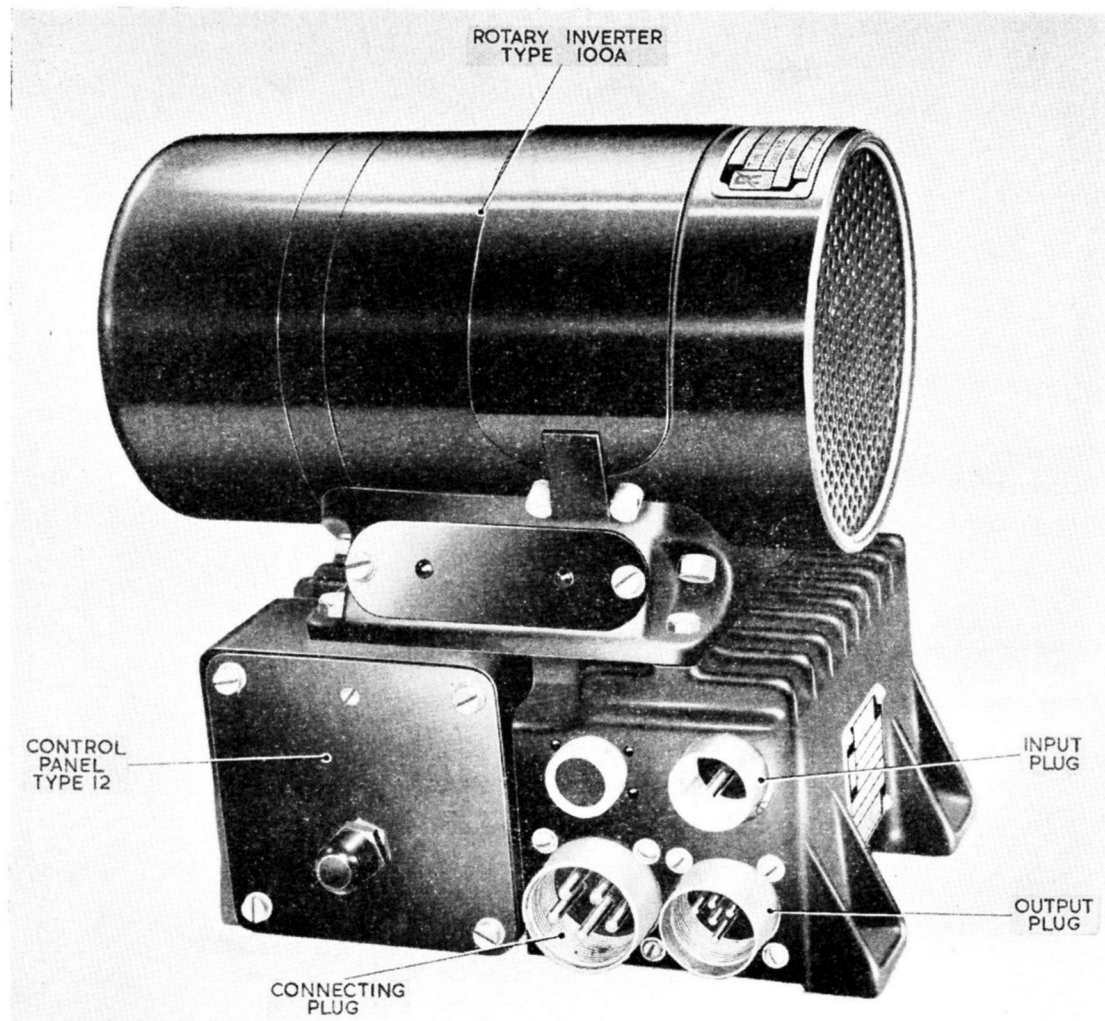
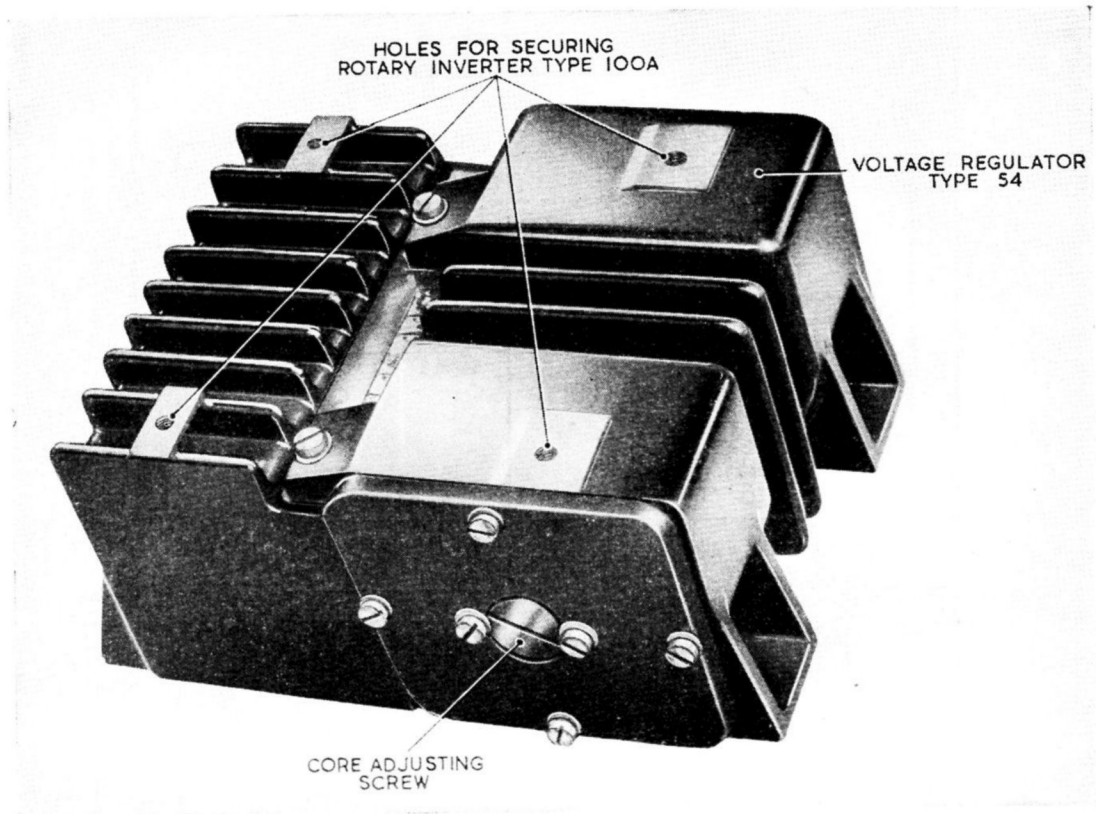
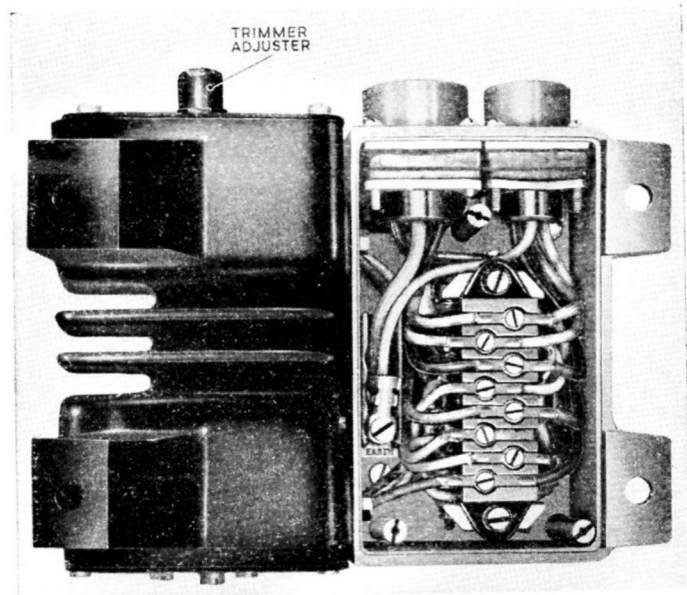

Fig. 1. Control panel, Type 12, with rotary inverter, Type 100A
Fig. 2. Control panel, Type 12
Fig. 3. View of underside of control panel
1. The control panel, Type 12, is used to regulate the output of the rotary inverter, Type 100A, which is described in Sect. 16 of this publication. The inverter may be mounted directly on the control panel, four fixing holes being provided on the latter for this purpose, as indicated in fig. 2; there are four possible mounting positions, one of which is shown in fig. 1. Alternatively, the inverter may be mounted remote from the control panel, to suit an individual installation; connection is made in each case by the connecting plug shown in fig. 1 and a corresponding plug on the inverter. A circuit
2. The control panel (fig. 2) incorporates two main castings secured together; one houses a voltage regulator, and the other (shown with the base cover removed in fig. 3) contains a rectifier, suppressor, and terminal block. Access to the 8-way terminal block is gained by removal of the base plate; there is in addition an earth terminal, which may either be earthed to the case, or taken through a plug situated alongside the d.c. input plug to a remote earth.
5. Adjustment of the magnet core is made by means of the screw shown in fig. 2. The trimmer resistor, which is slotted for screw-driver operation, is brought out at the opposite side of the regulator, and so enables small voltage adjustments to be made without any dismantling.